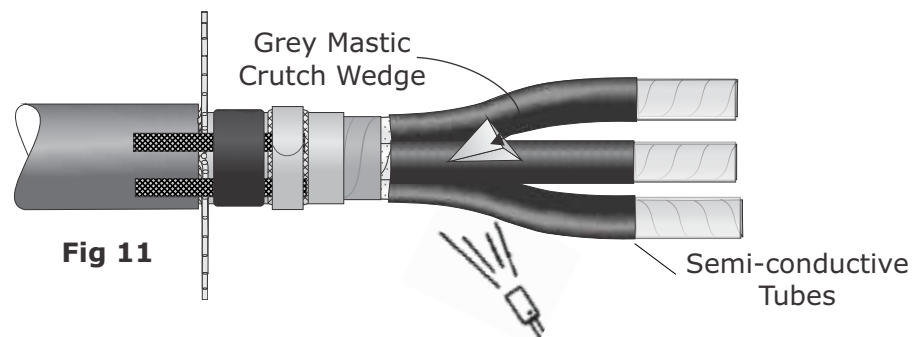

Fig 11
16. Position the black semi-conductive tubes over each core just beyond the yellow stress tape as in Fig 11. With a suitable heat source gently shrink the tubes into place starting from the open end working towards the crutch.
17. Take the grey mastic crutch wedge and with the aid of a little cable grease, force it into the crutch between the cores as far as possible as in Fig 11.